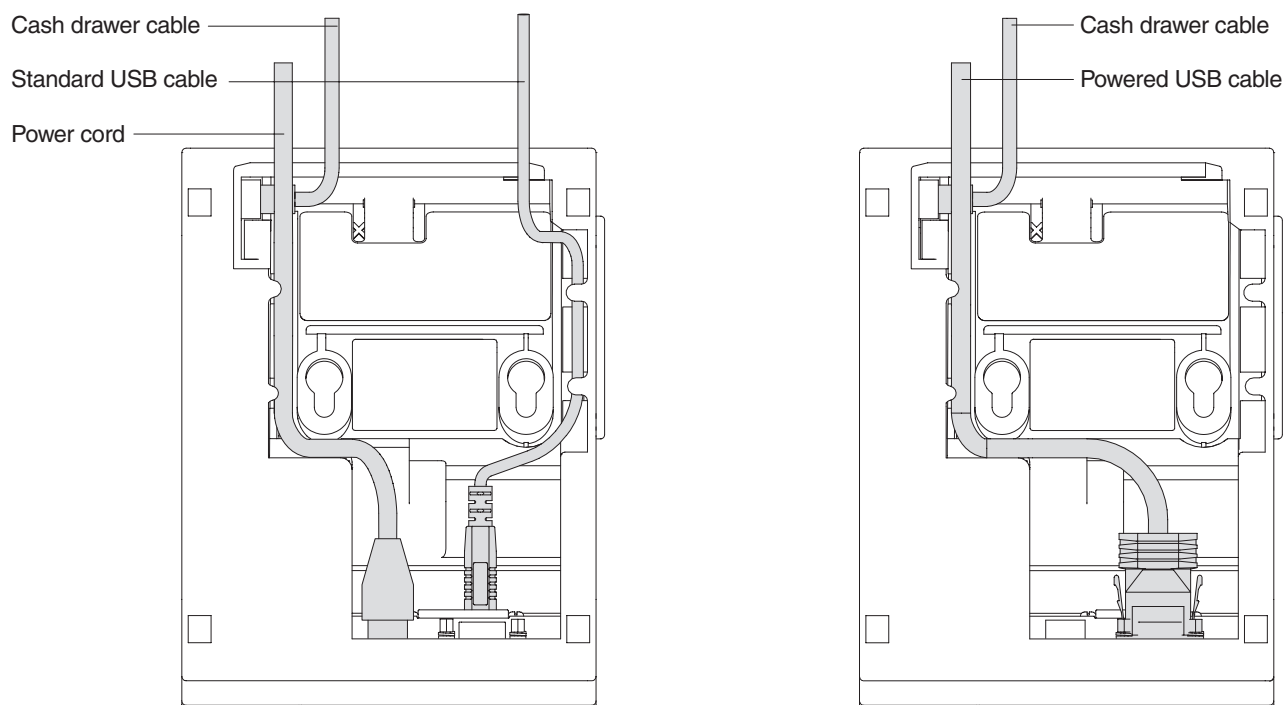

Figure 11. USB cable routing for single-station SureMark printers
3. For single-station printers, route any power cord and cables as shown in Figure 11.